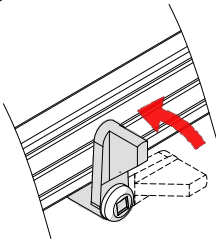

FIG. 3
- d. Rotate screen clips to lock the screen frame in place. See **FIG. 3**